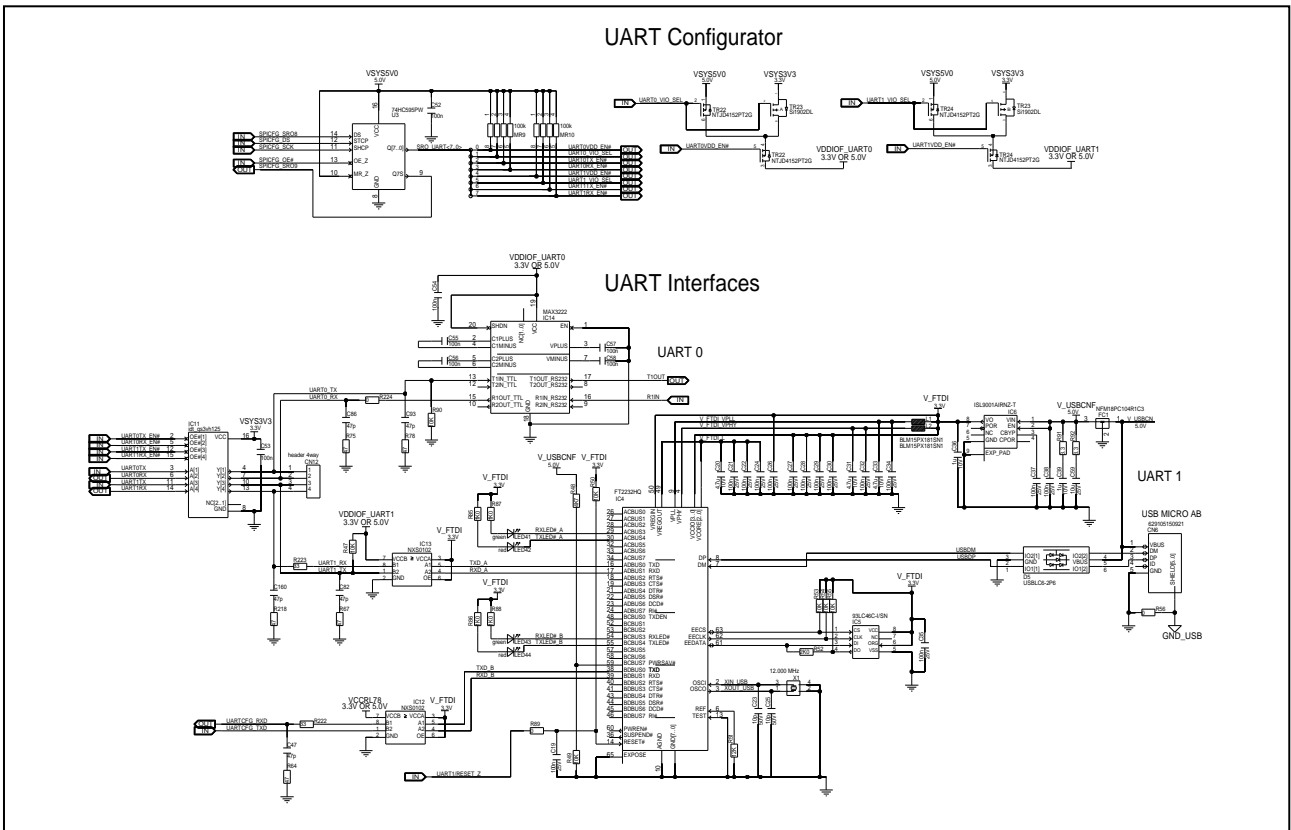
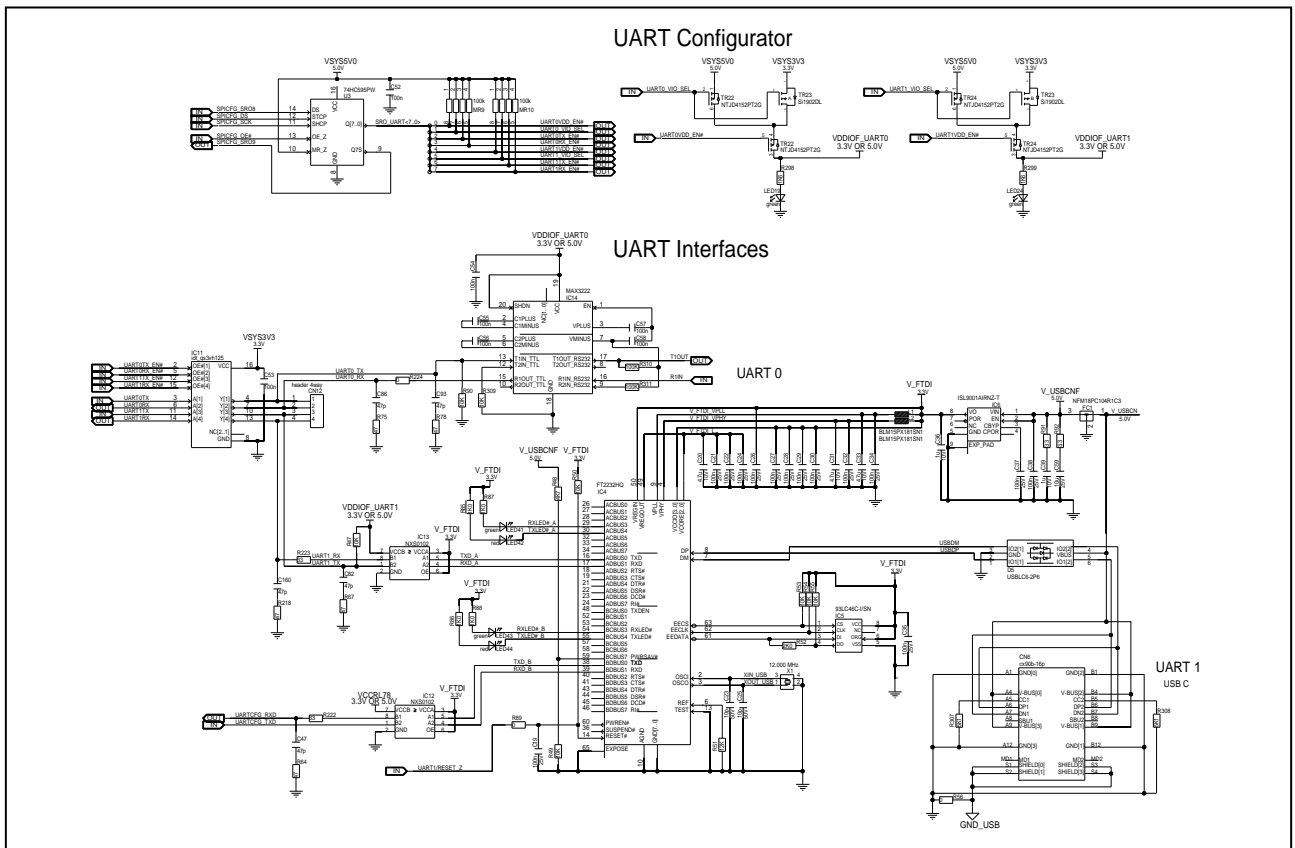

Figure 5.23 UART interface circuit diagram of board version D019712\_06\_V01
Figure 5.24 UART interface circuit diagram of board version D019712\_06\_V02
*Figure 5.23* and *Figure 5.24* show the circuit diagrams for UART0 and UART1.